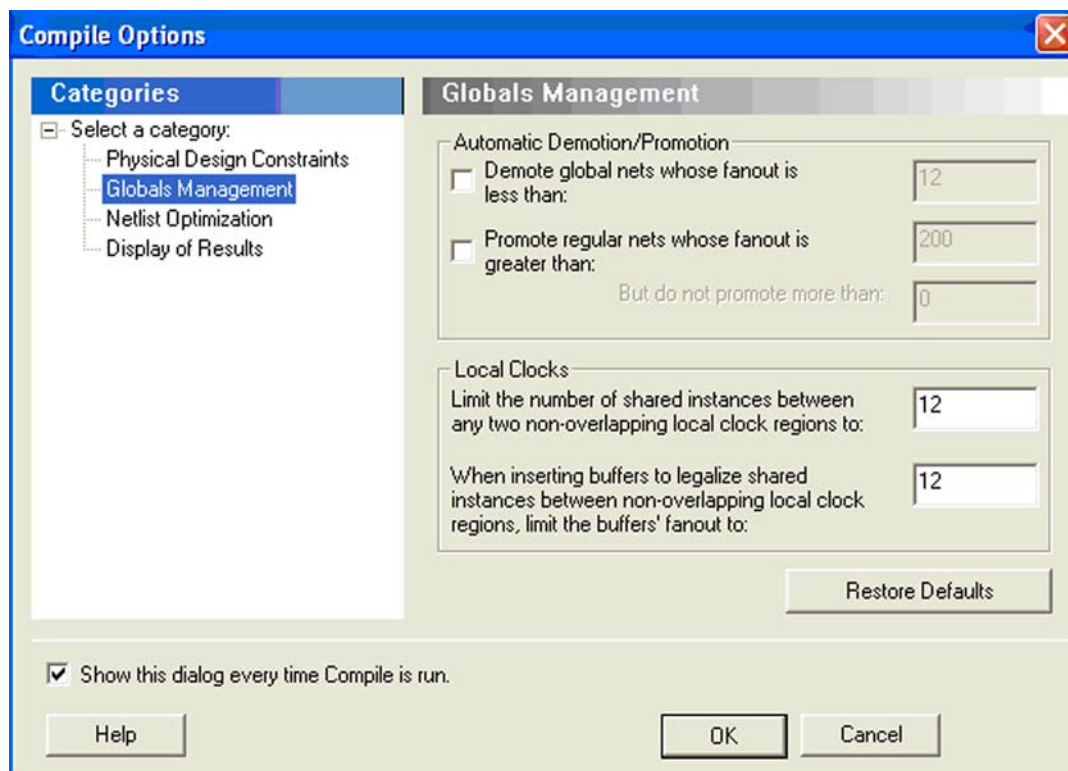

Figure 4-18 • Globals Management GUI in Designer
2. If some signals have a very high fanout and are candidates for global promotion, promote those signals to global using the compile options or PDC commands. Figure 4-18 on page 80 shows the Globals Management section of the compile options. Select **Promote regular nets whose fanout is greater than** and enter a reasonable value for fanouts.